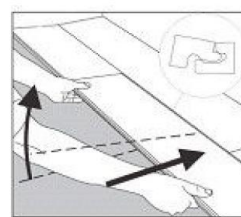

Figure 3
10. Begin the second row with the cut piece from the first row (Figure 3). If the cut piece is shorter than 20 cm (8 in), do not use it. Instead, begin with a new plank that is at least 20 cm in length and allows 20 cm between the end joints on the adjacent planks.
14. Install the remaining planks and rows in the same manner (**Figures 3 & 4**).